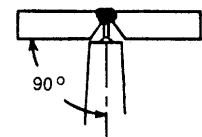

Figure 2.5
3. The electrode should be positioned at a 90° work angle and a 10° to 15° drag angle to perform the weld. (See Figures 2.5 and 2.6.)